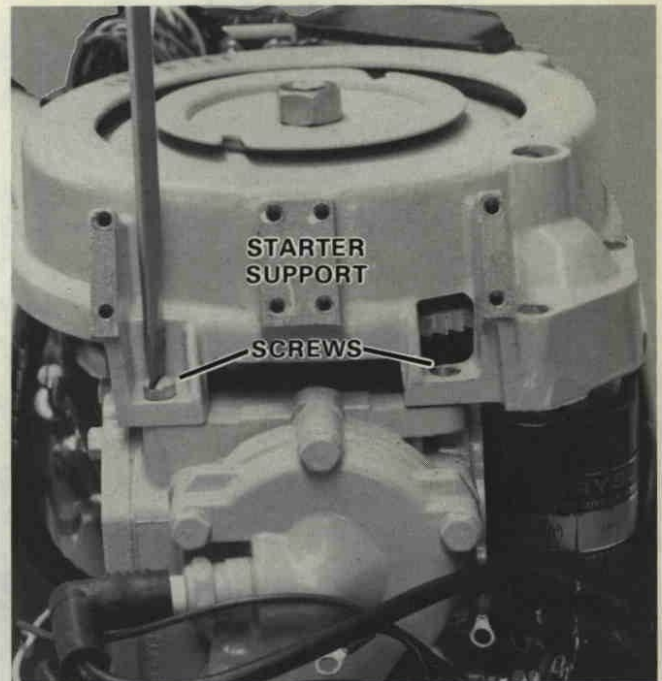

Figure 21. Removing Starter Support.
2. Remove four (4) screws securing coil to starter support.
3. Remove (2) screws securing starter to starter support plate. Lay starter in support plate.
4. Remove four (4) screws securing starter support to starter support bracket on power head. Figure 21.